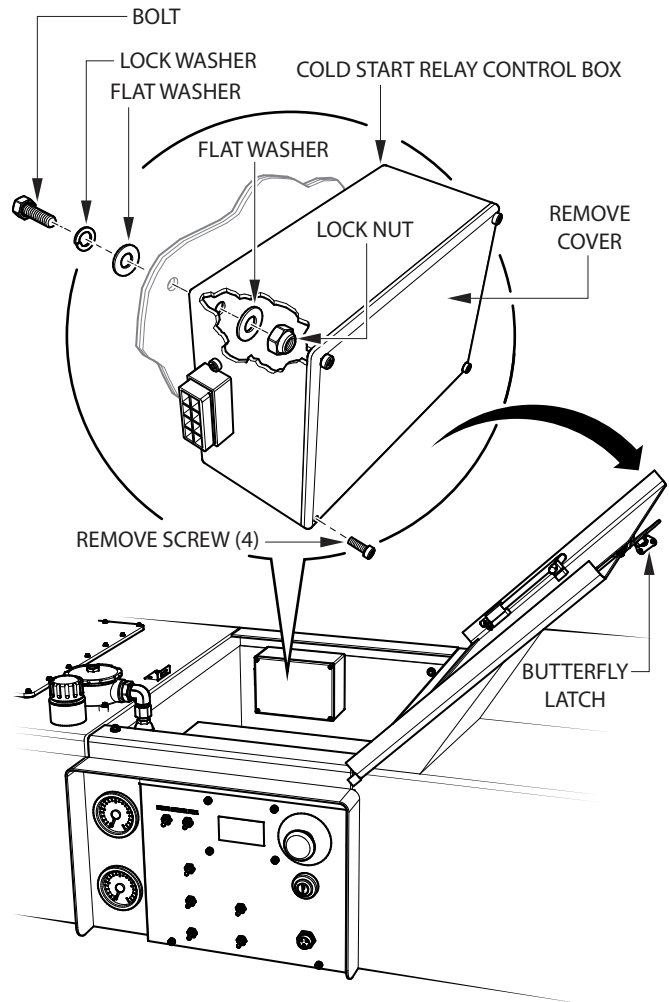

Figure 3. Cold Start Relay Control Box Mounting
3. Using a phillip-head screw driver remove the screws (4) that secure the cover (Figure 3) to the Cold Start Relay Control Box
4. Mount the Cold Start Relay Control Box using a 1/4-20 X 1 bolt (2), 1/4-inch lock washer (2), 1/4-inch flat washer (4) and 1/4-20 nut (2).